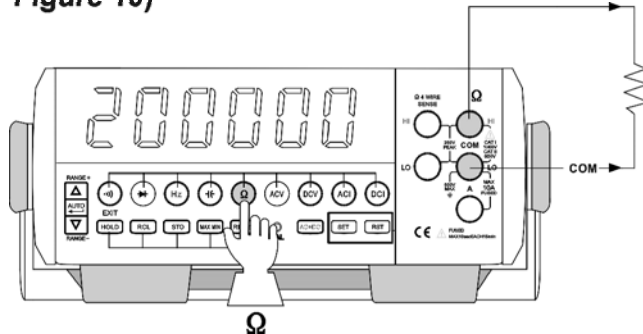
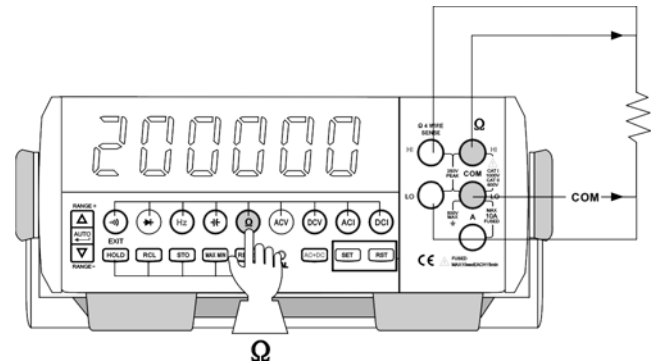

Figure 9
Figure 10
### 4. Resistance measurement (See Figure 9 and Figure 10)
1) The Figure 9 shows the Two-end resistance measuring method, with the resistance to be entered from the front panel. At this time, insert the red pen-shape meter into “V Ω Hz μA mA” input port and the black pen-shape meter into “COM” input port;
4) The Figure 10 shows the four-end resistance measuring method. At this time, it should use two pairs of pen-shape